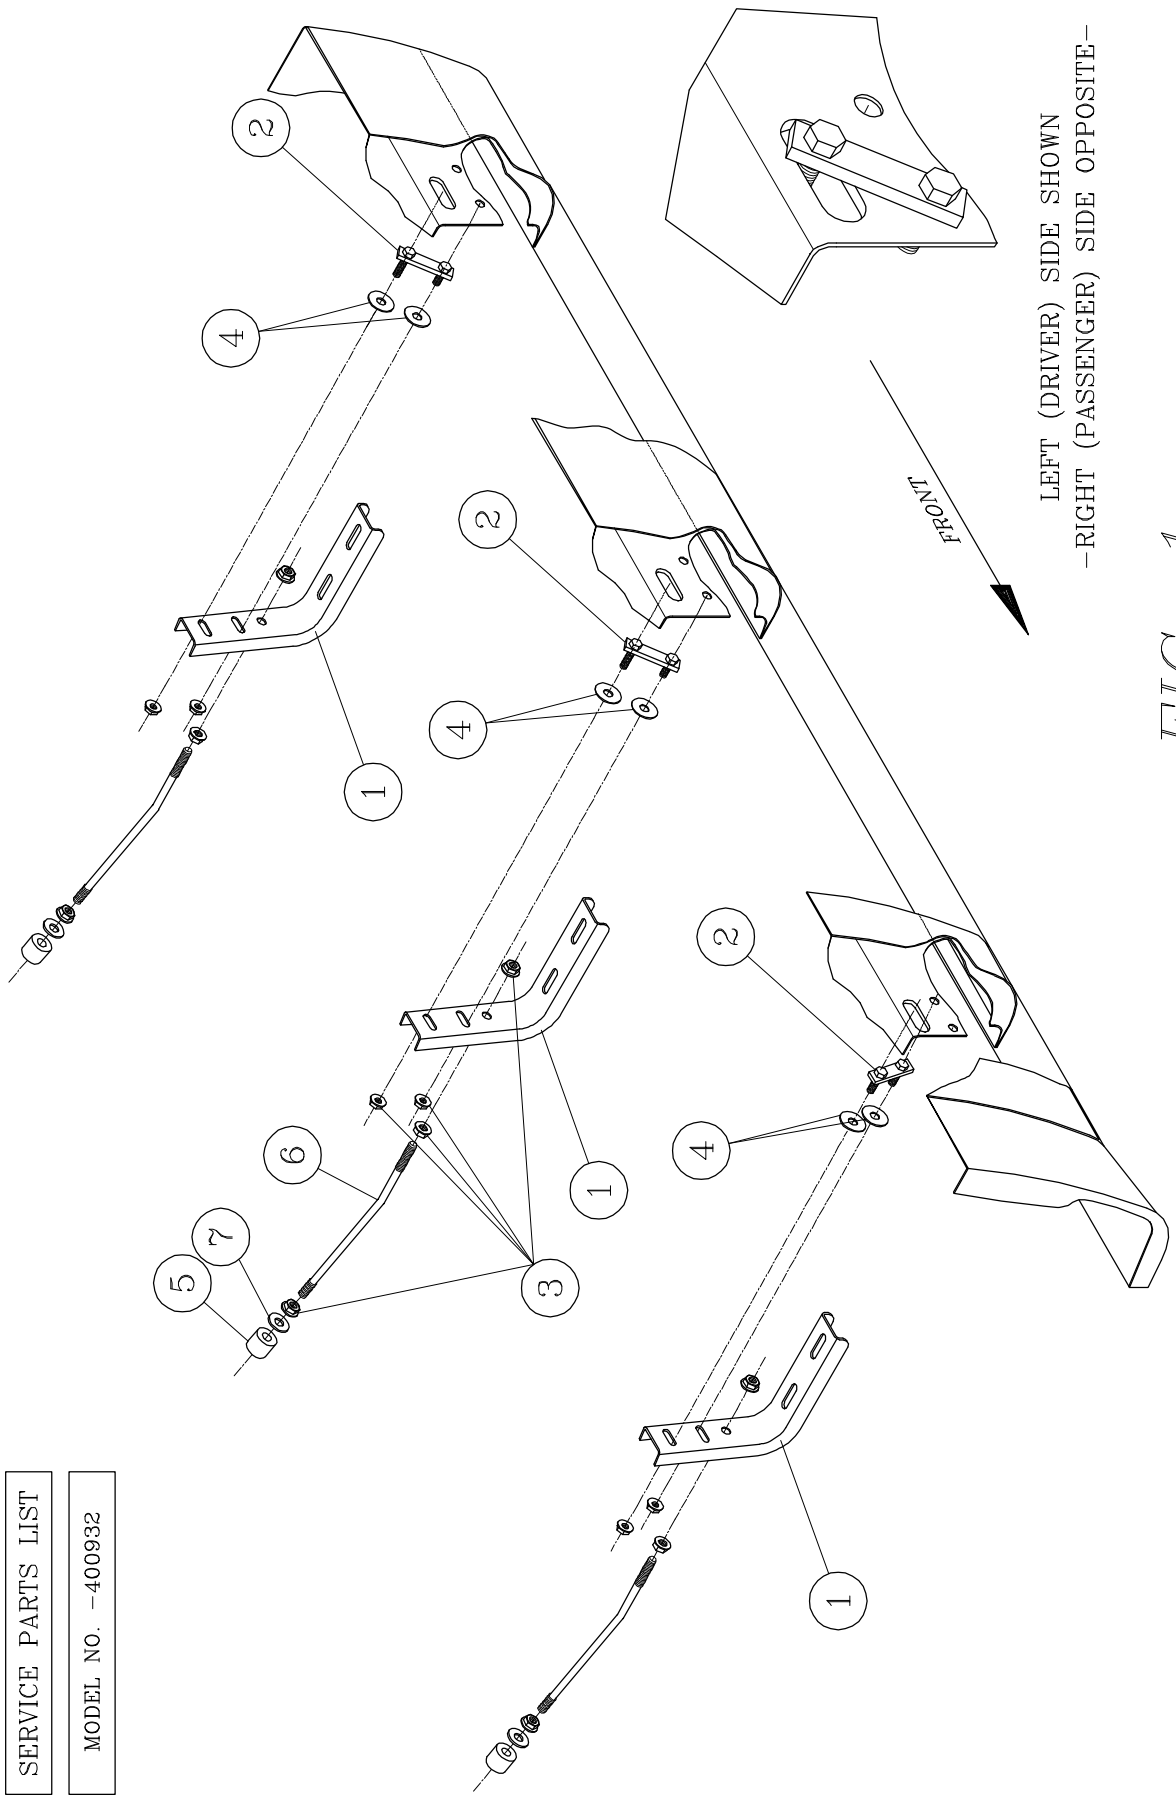

FIG. 1
2. ATTACH THE MOUNTING BRACKETS TO THE VEHICLE AS FOLLOWS: [SEE FIG. 1]